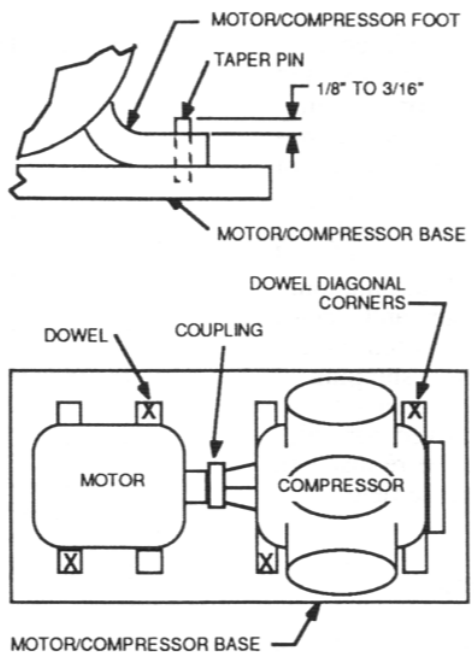

Figure 3-17 Doweling
2. With the compressor still at operating temperature, drill and ream two (2) holes diagonally opposite on both the compressor and motor. Do not ream the holes too deep. Part of the dowel pin should protrude above the compressor or motor foot (see step 4 below). See Figure 3-17.